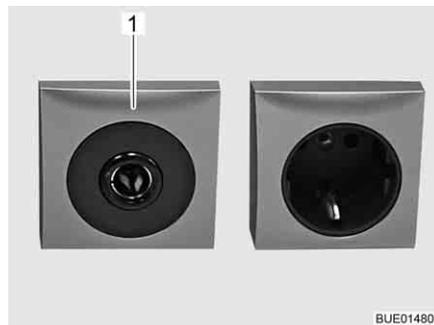

Fig. 150 12 V/10 A socket
- ▷ Only connect devices with a maximum of 10 A to the sockets (Fig. 150,1) of the 12 V power supply.